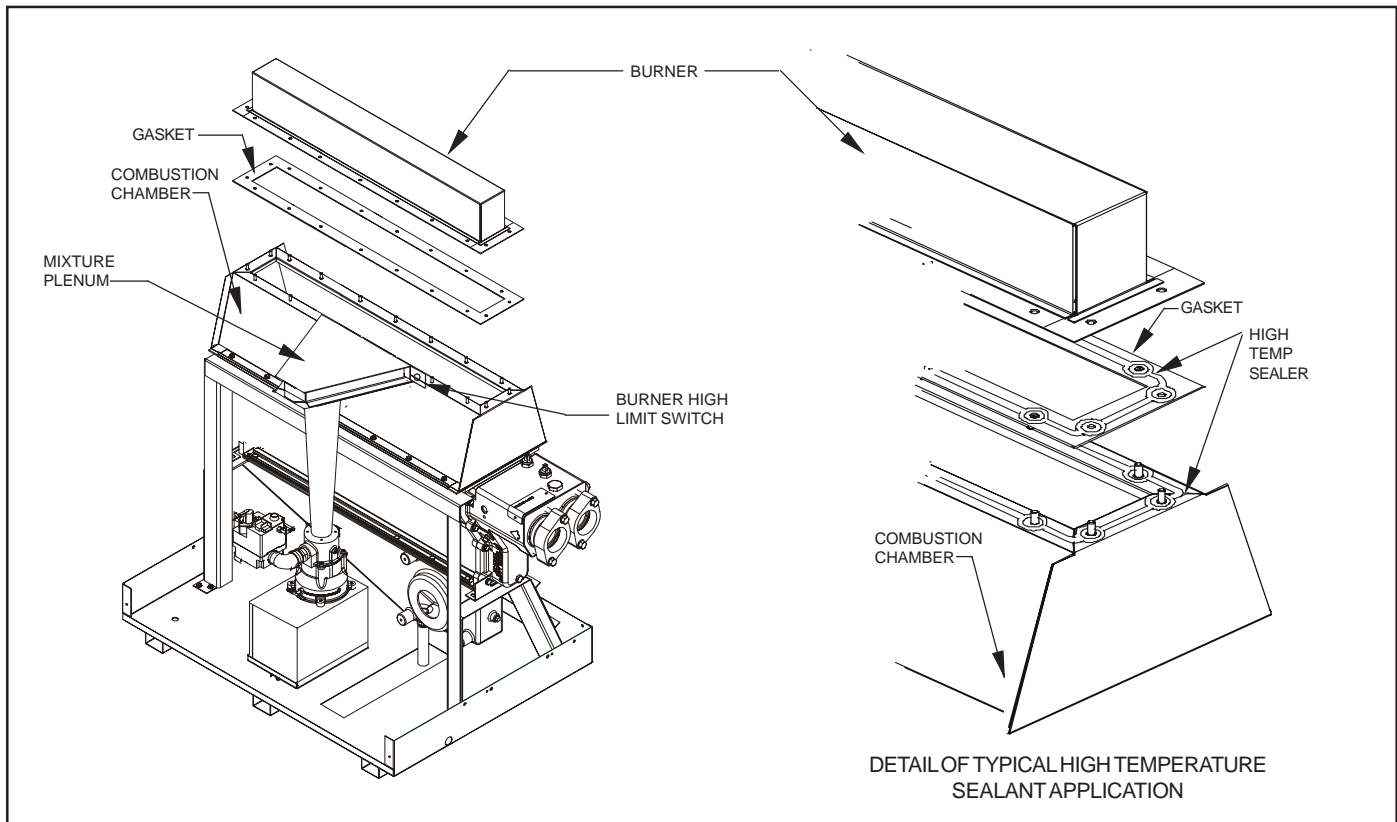

Figure 2- Component Assembly Detail
5. Remove the seven nuts holding the mixture plenum to the front of the burner (see Fig. 2).
7. Remove all the nuts that hold the burner to the combustion chamber (18 for an EHE 350, 14 for an EHE 220) (see Fig. 2).
- a. Apply a 1/4" bead of sealer along the centerline of the combustion chamber top flange. Form the bead in a small circle around each stud (see Fig. 2).
- a. Place the mixture plenum/burner gasket over the studs on the front of the burner (see Fig. 2).